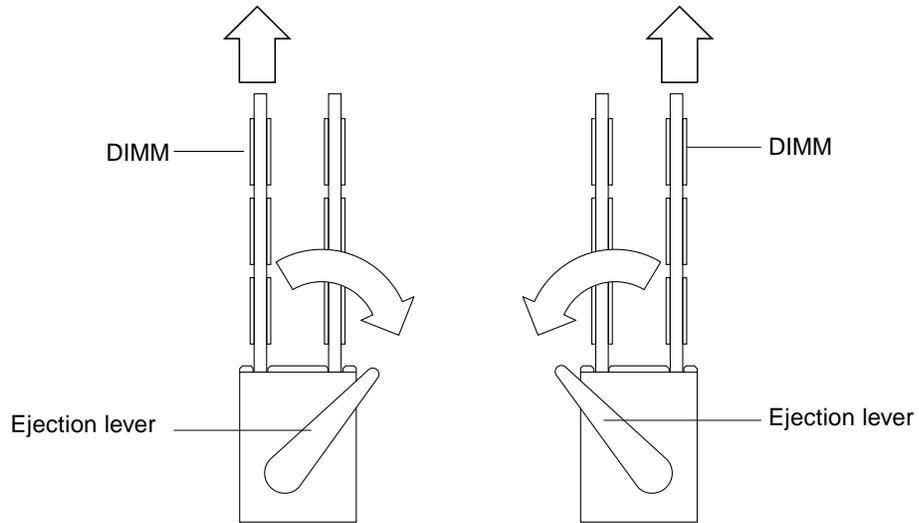

FIGURE 10-6 DIMM Ejection Lever
7. Push the lever away from the DIMM (see FIGURE 10-6 on page 84) to be removed.